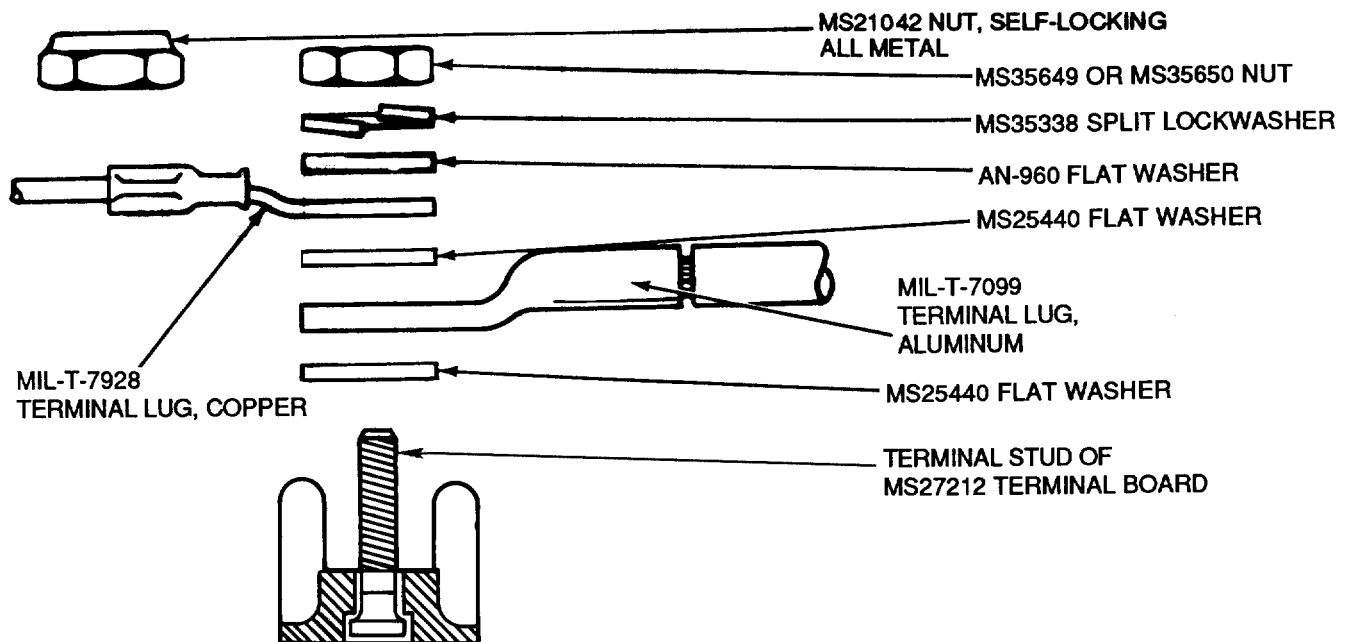

Figure 16. Hardware for Wiring Terminal Boards with Combination of Terminals
44. **ATTACHING COMBINATIONS OF TERMINALS.** To attach copper terminals with aluminum terminals on the same terminal stud proceed as follows (Figure 16).
- Assemble in proper sequence (Figure 16).